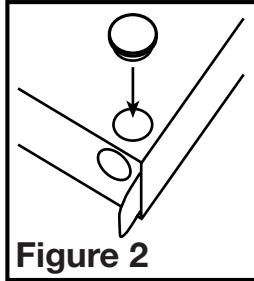

Figure 2
4. Select the most convenient electrical knockout hole and insert the knockout plug into the 2nd knockout hole (Figure 2).